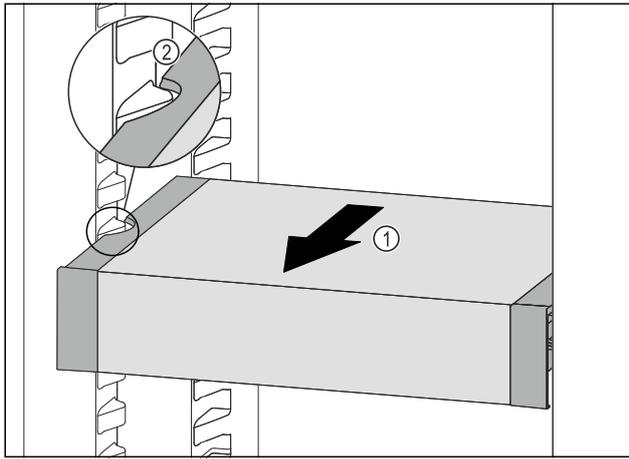

Fig. 84
- ▶ Pull VarioSafe forwards Fig. 84 (1) until the recesses in the side of the VarioSafe are at the level of the support rib in the fridge section. Fig. 84 (2)